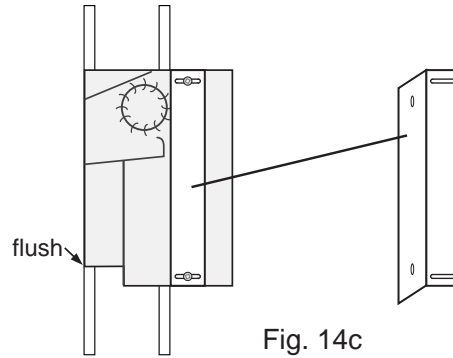

Fig. 14c
14.3 Attached the mounting flanges to the fan module with the screws provided but do not tighten the screws so that the flanges are able to slide along the slots. Slide the fan module into the wall until the front edge is flush with the wall, figure 14c. Tighten the screws holding the tabs so that the front remains flush with the wall. Level the unit and screw the flanges to the wall.